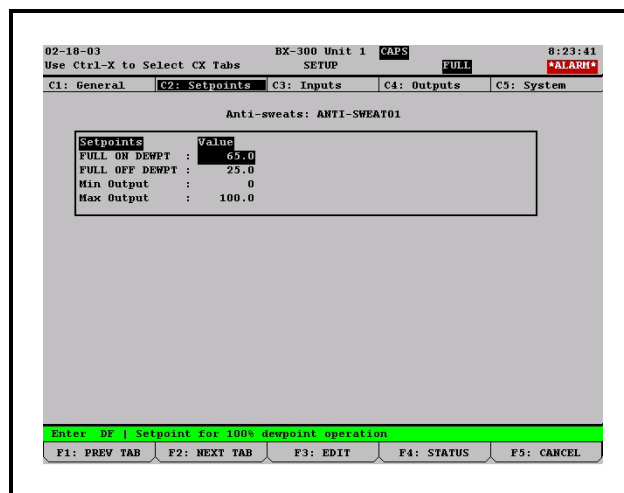

Figure 4-5 - Anti-Sweat Setpoints Setup Screen
4. Press **F2** (NEXT TAB) to advance to the Setpoints Setup screen. (*Figure 4-5*).